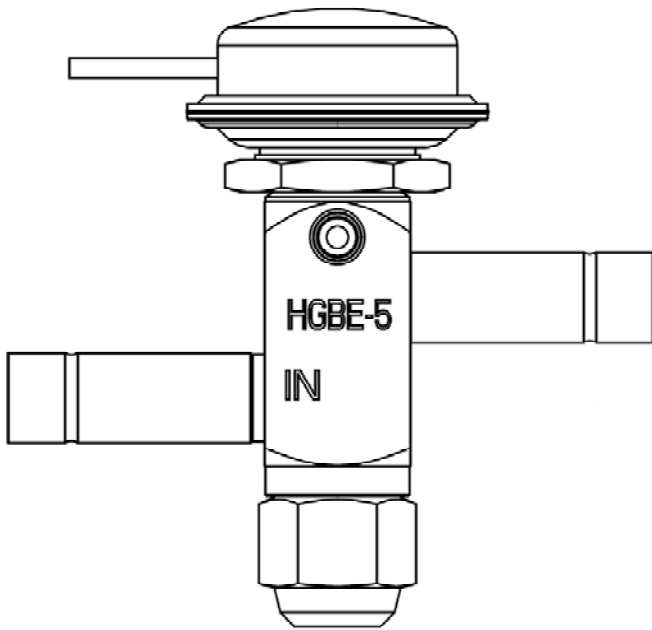

FIGURE 2: DISCHARGE BYPASS VALVE
4. Install the HGBE-5 DBV. The inlet side of the valve is marked "IN". See Figure 2.